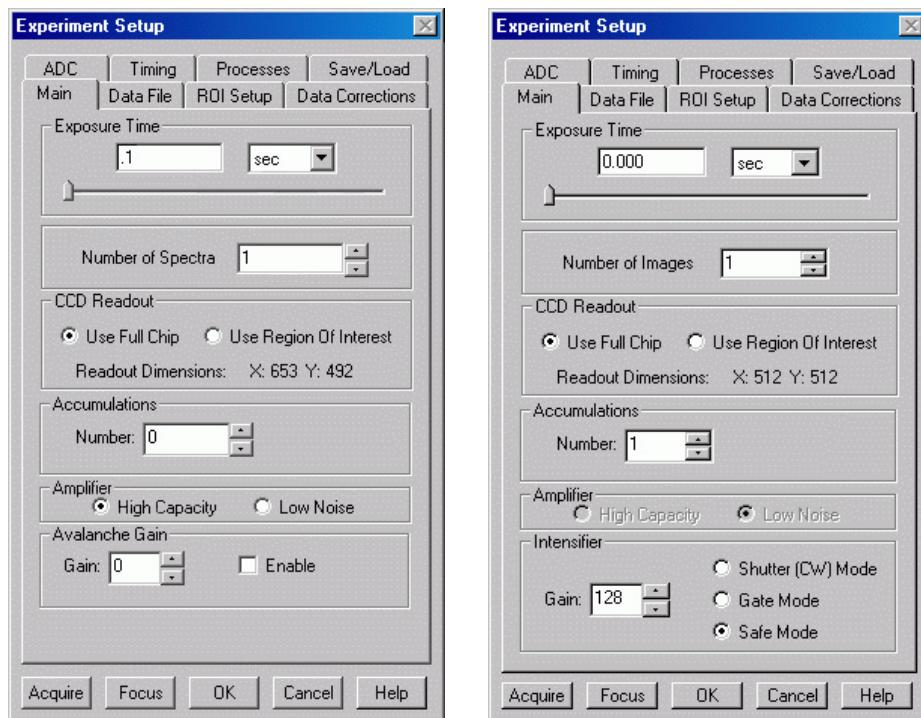

Figure 31. Experiment Setup dialog box Main tab page; left, all but PI-MAX; right, PI-MAX
1. Open the Experiment Setup dialog box (Figure 31) from the Acquisition menu.